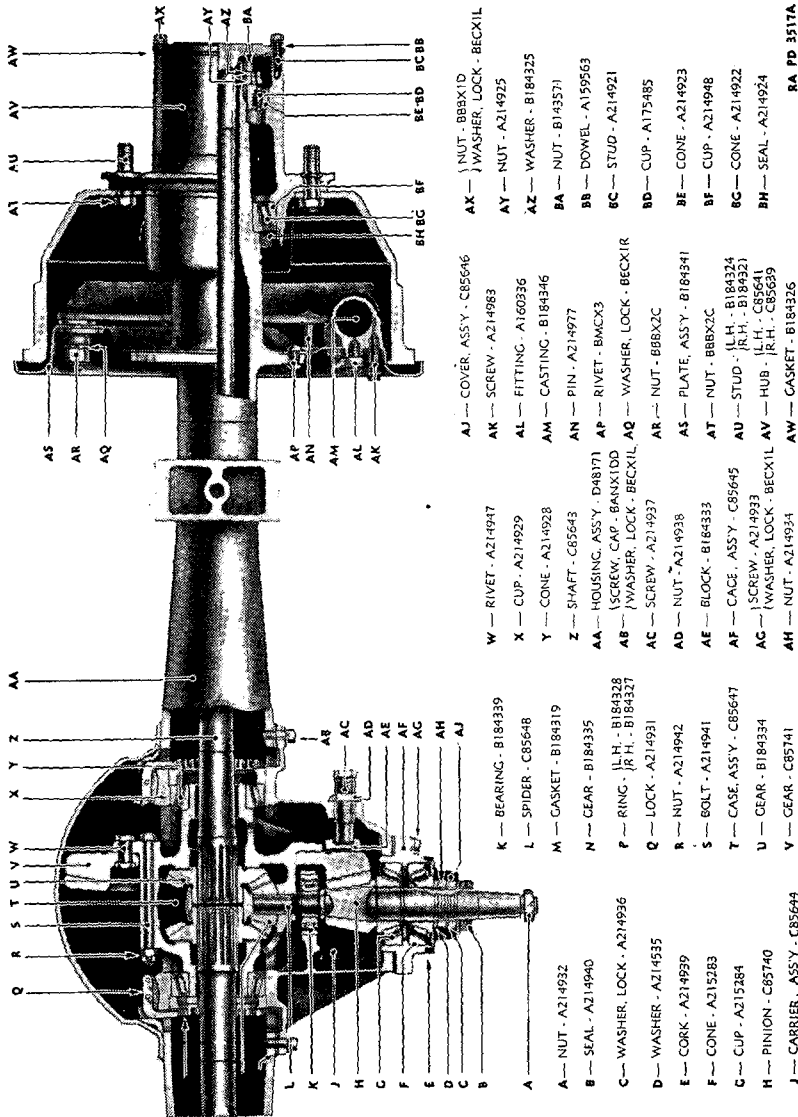

FIGURE 44.—Rear axle (jackshaft) assembly, sectioned.
a. Construction (fig. 44).—(1) The rear axle (jackshaft) consists of a banjo type housing which has a pressed steel center with forged steel outer ends welded to the housing. The differential and bevel gear assembly, together with the pinion assembly, are mounted in the carrier